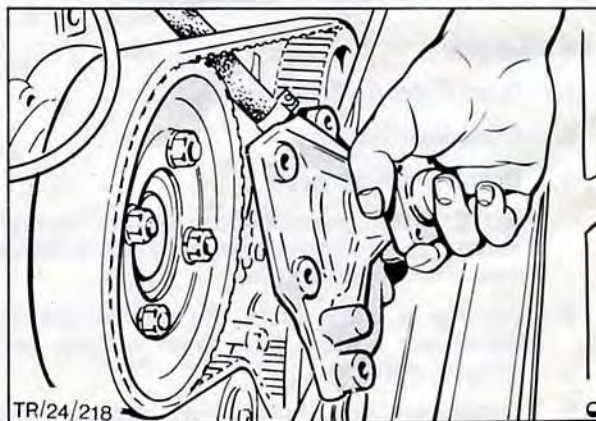

Fig. 28. Fitting the water pump assembly. (connect hose before positioning pump)
14. Ensure jointing faces of pump and backplate are clean and free from old gasket, sealer etc. Using a new gasket and sealer position pump on backplate, Fig. 28, loosely engaging by-pass hose on cylinder head outlet. Retaining bolts noting that lower bolt hole on pump is used in conjunction with a dowel bolt to ensure correct alignment of pump housing.